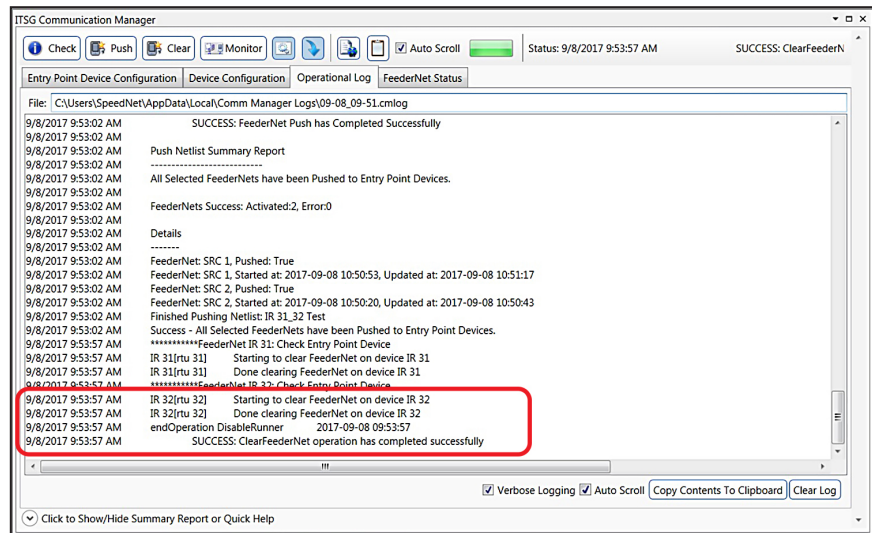

Figure 4. The Operation Log tab on the *IntelliTeam SG system Communication Manager* screen.
STEP 1. Verify the netlists have been cleared by looking for confirmation in the **Operation Log** tab on the *ITSG Communication Manager* screen. See Figure 4.